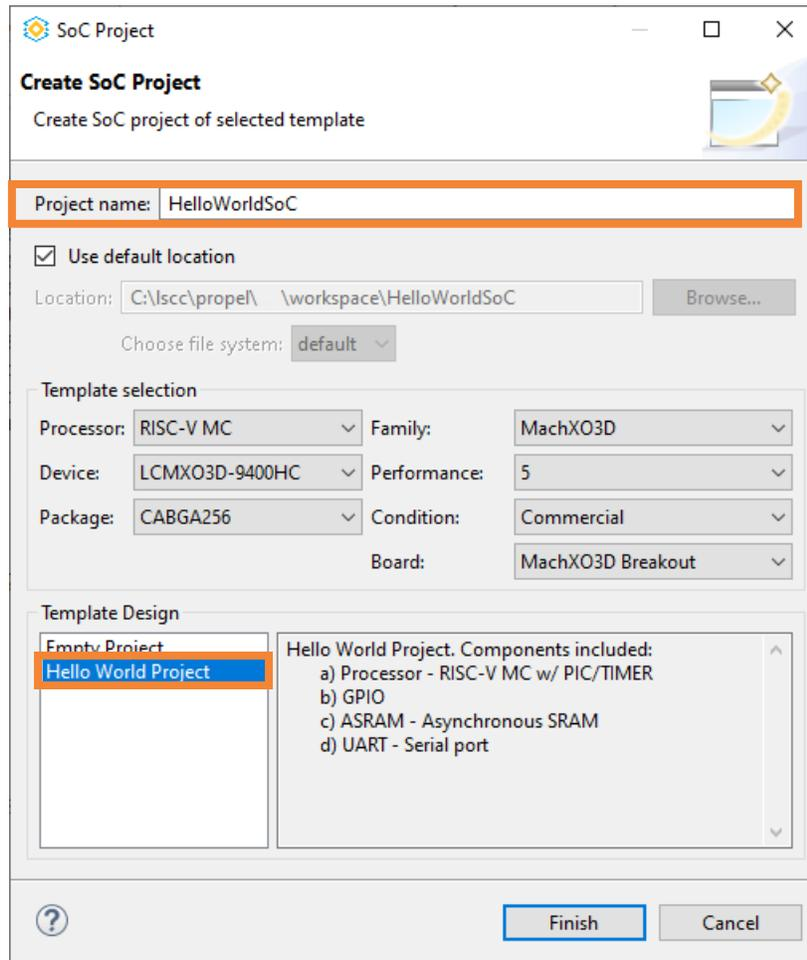

Figure 4.3. Create SoC Project Wizard
2. The **Create SoC Project** wizard opens (Figure 4.3). Enter a project name, such as **HelloWorldSoC**. Select the **Hello World Project** template.